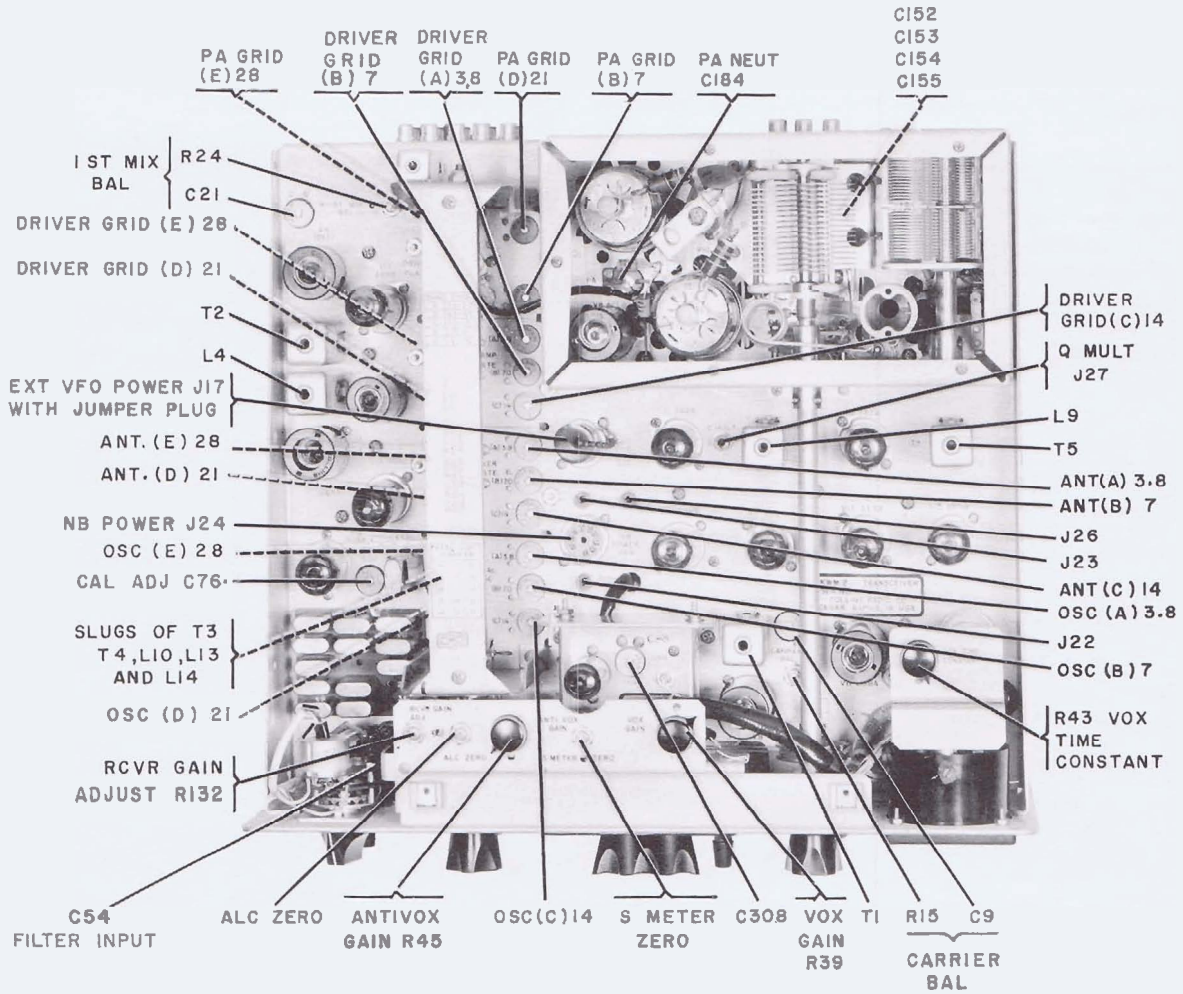

Figure 4-1. Location of Adjustments
at frequencies outside the amateur bands will result in slightly decreased receiver sensitivity and transmitter PA grid drive, unless the tuned circuits of the transceiver are retuned to peak their responses in the desired portions of the high-frequency spectrum. For moderate excursions from the amateur bands the decrease in performance is minor, and realignment of the r-f circuits is usually not necessary unless optimum performance is desired.) Adjustment of the trimmer capacitors only will normally be sufficient to peak the response outside the amateur bands. Figure 4-1 shows the location of these adjustments. The letter portions of the capacitor designations correspond to the frequency ranges listed in the total coverage column of table 2-1. For example, the E trimmers are normally peaked on 10 meters, but may be reset to favor another portion of band E which covers 22.0 to 30.0 mc.
Table 4-1 lists appropriate signal generator connection points and normal signal levels. Figure 4-1 shows
Table 4-2 lists significant test points and normal signal levels. Figure 4-1 shows location of test points and adjustments. All r-f and i-f measurements were made by connecting a vacuum-tube voltmeter to the avc bus and increasing signal generator output until the avc threshold is reached. The avc threshold voltage is the point at which the d-c vtvm indication just changes with increased signal level. The receiver was tuned to 14.1 mc for these measurements and test signal injected at indicated test points. Signal voltage values are taken from signal generator output attenuator. All values are nominal and may vary  $\pm 20\%$  without degrading performance.
4.5.1.2 455-KC I-F ALIGNMENT. (Refer to figure 4-1 for location of adjustments.)